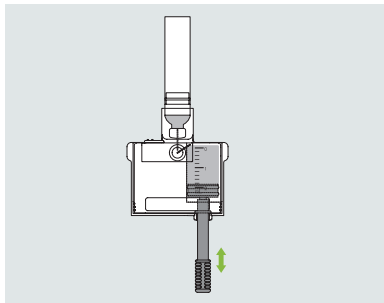

Figure 24
5. Push the pullrod slowly to eject the bubbles back into the vial or cartridge, and then slowly pull to draw more insulin into the reservoir. Repeat until the reservoir has enough insulin and there are no visible air bubbles (Figure 24).